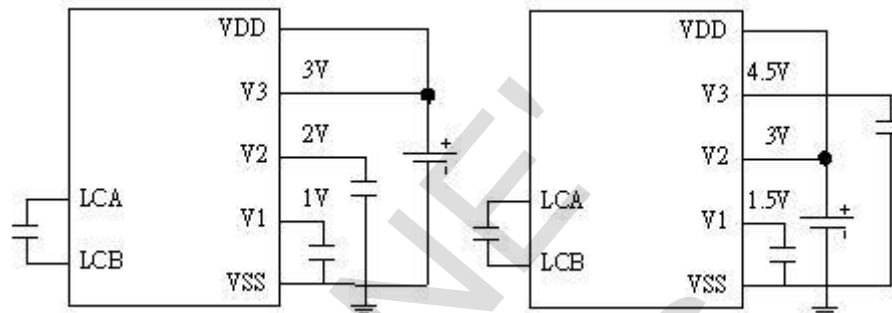

Figure 13-4 1/3 bias LCD power system circuit connection example
- 1/3 bias power system (Please see Figure 13-4 and 13-5)